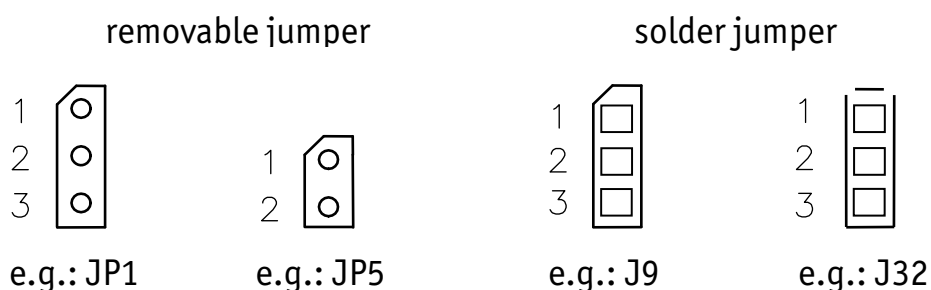

Figure 17: Typical Jumper Numbering Scheme
The phyFLEX Carrier Board comes pre-configured with removable jumpers (JP) and solder jumpers (J). The jumpers allow the user flexibility of configuring a limited number of features for development constraint purposes. Table 40 below lists the jumpers, their default positions, and their functions in each position. Figure 17 depicts the jumper pad numbering scheme for reference when altering jumper settings on the development board.